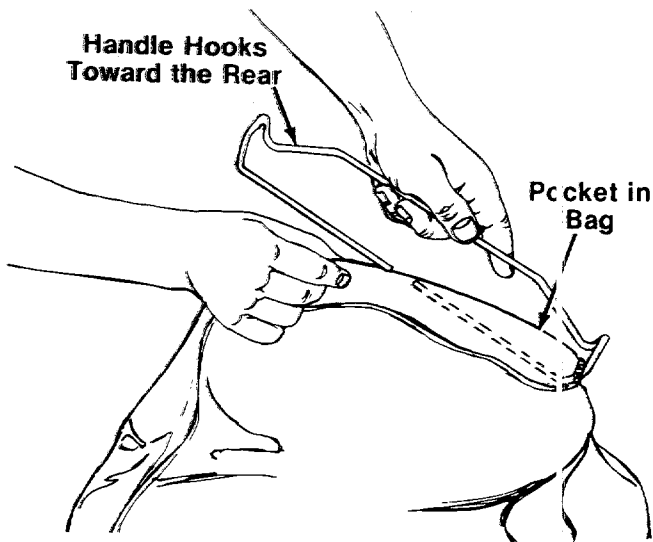

FIGURE 13.
3. Attach the rear handle to bag by inserting one side of handle into pocket on the rear of the bag. The handle should hook toward the rear of the bag as shown in figure 13. Thread all the material onto one side, then slide it over onto the other side. See figure 13.